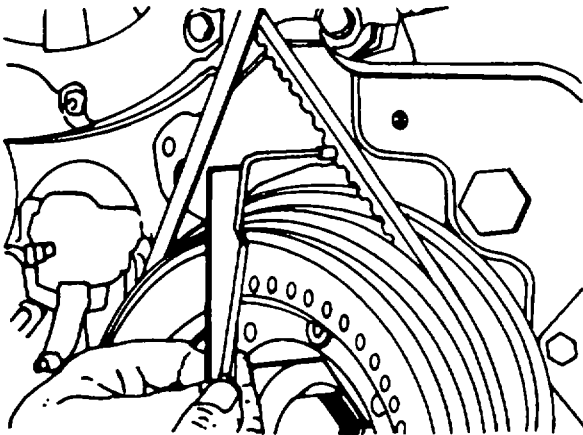

Figure 4-49. Setting Gauge Pointer Halfway Points
3. Turn back crankshaft through about one revolution of gauge pointer, then again in original direction up to 0.1 mm (10 graduations) from 0 position. Provide a mark on the V-belt pulley agreeing with dowel sleeve (figure 4-49).